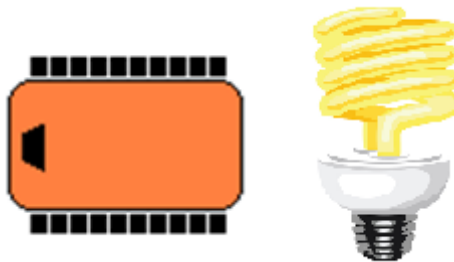

Figure 3: Robot Docking
1. Improve the homing routine implemented in part 1 by docking the robot (back to the light) (see Figure 3). The robot should then follow the original path to drive back to the wall and continue to follow at the point where it left off.